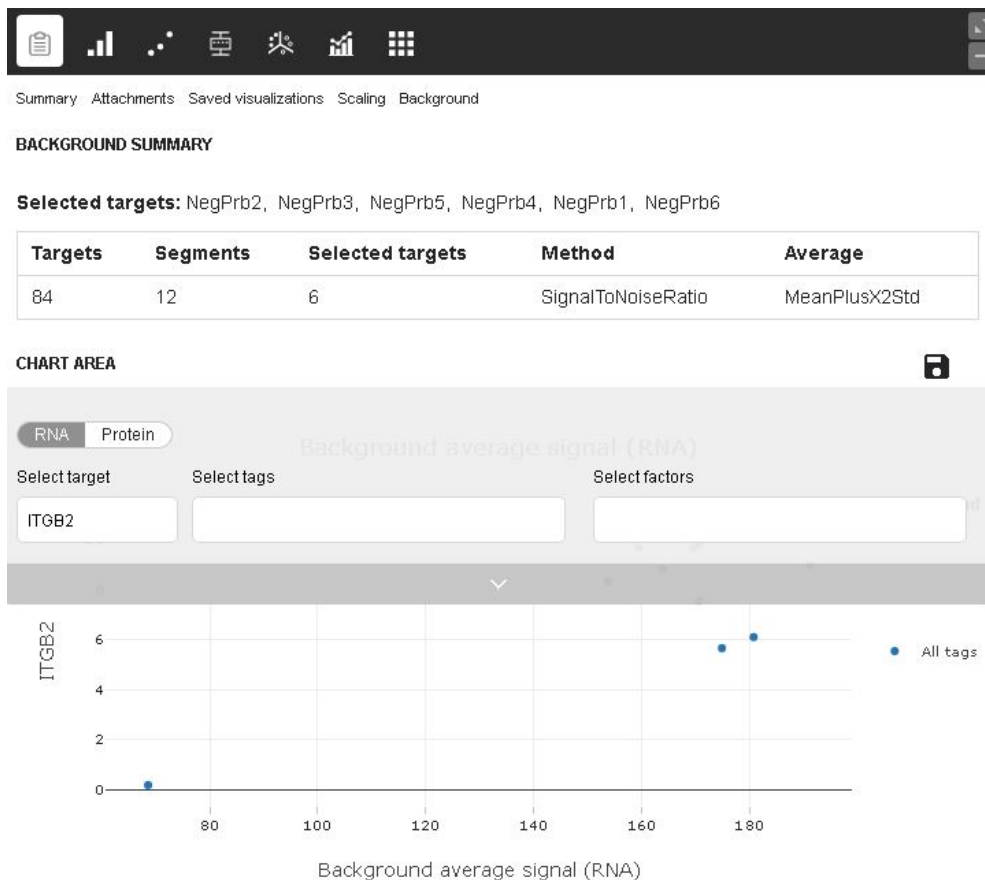

Figure 33: Background summary drop down field
- Click the arrow to access the drop down field (see Figure 33). Select **Protein** or **RNA** from the slider to see the respective chart. **Select tags** or **factors** to filter and color the results based on tag.